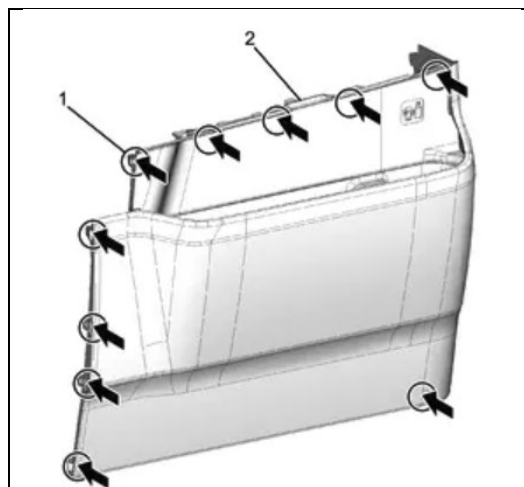

Figure 32
38. Connect the passenger airbag cut off switch connector and install the side under cover. (See Figure 32.)